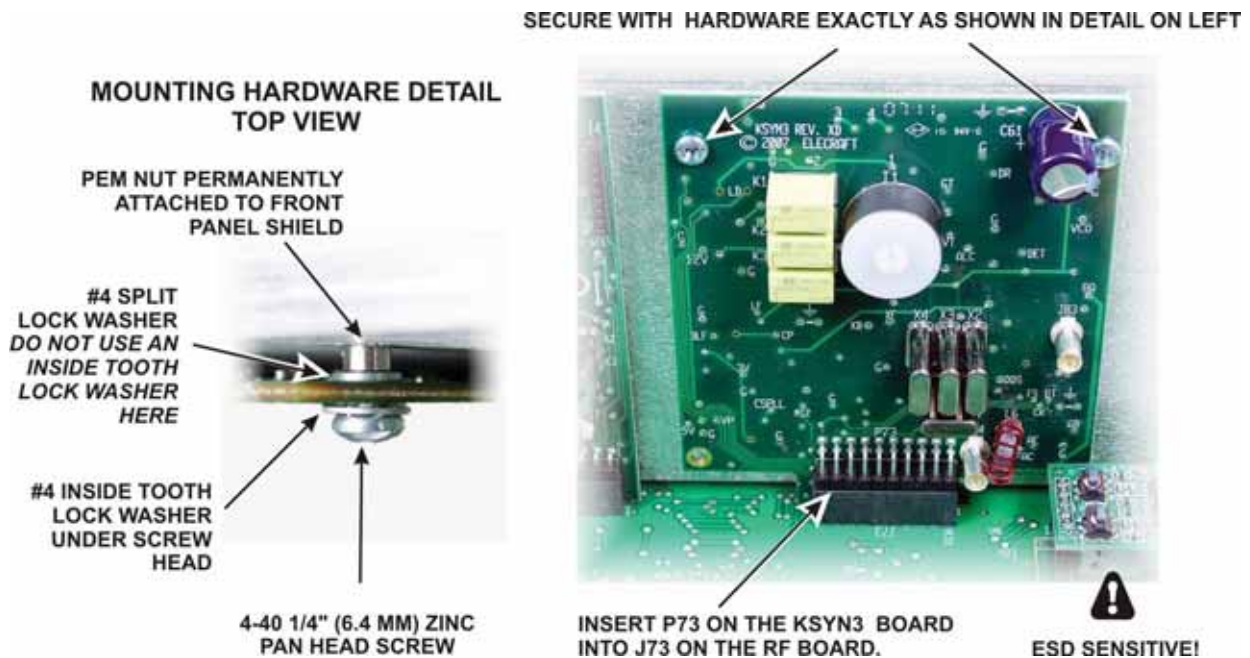

Figure 72. Installing the KSYN3 Board.
□ Install the KSYN3 board on the back side of the front panel shield using the hardware exactly as shown in Figure 72. This is most easily done as follows: